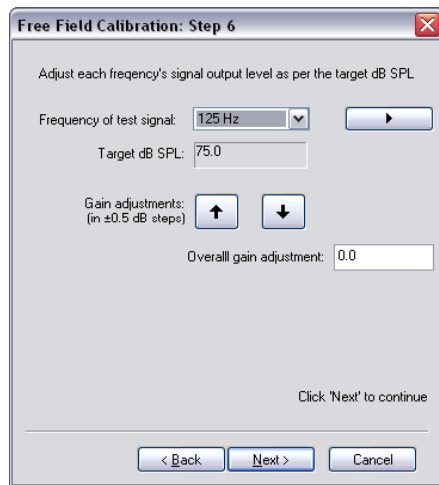

Figure 2.2.11: Manual calibration
6. Click through the Calibration Wizard until you reach Step 6: Free Field Calibration. See Figure 2.2.11.